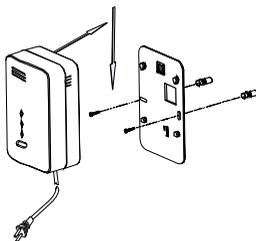

Figure B- 41: Securing the Detector
3. Using a 3/16-inch (5 mm) drill bit, drill two holes at the marks and insert wall plugs (Figure B- 41).
1. Line up the side slot of the bracket and the detector. Push the detector onto the mounting bracket and fix it (see arrow direction, Figure B- 41). Pull the detector outwards to make sure that it is securely attached to the mounting bracket.